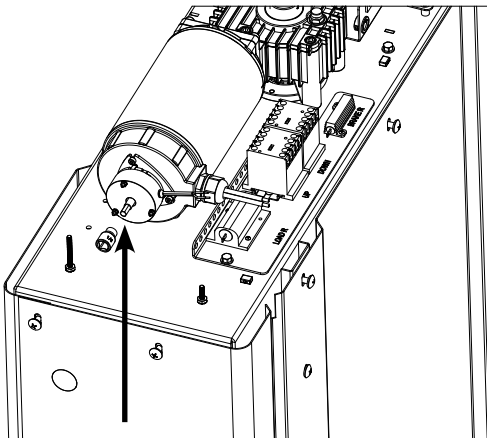

Figure 3-6
6. If you have a 3/8" drive ratchet or a cordless drill with a 3/8" socket adapter bit you can use the 1/4" socket for lowering. Power the drill in the forward direction - rotating clockwise to lower the platform. **See Figure 3-6.**